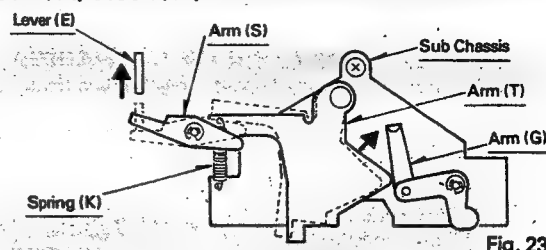

Fig. 23
With Eject Lever (E) pushed, Arm (T), through the pressure of Spring (K), moves in the direction shown by arrow in the figure and pushes Arm (G) so that the sensing mechanism is deactivated. With Eject Lever (E) returned to its normal position, Arm (T), through Arm (S), is separated from Arm (G) (Fig. 23).